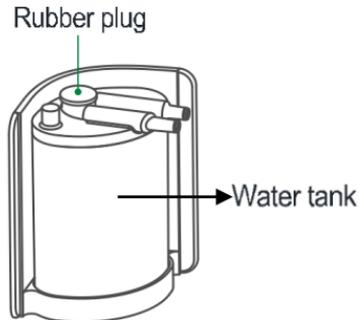

Figure 11
(2) Remove the rubber plug (Figure 11)